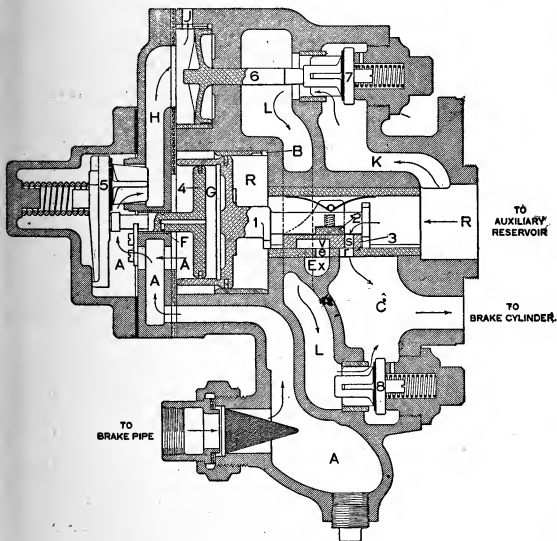

Fig. 30.—Emergency Position.
Fig. 30. When a sudden heavy reduction of the brake pipe pressure is made, piston (1) moves to the left so rapidly that the air chamber "G" can not escape through port "F" as quickly as the brake pipe pressure is reduced. It therefore cushions, momentarily, upon piston (4), moves it to the left, unseating vent valve (5), permitting brake pipe air to escape into passage "H," where it forces piston (6) to the right, and then escapes to the atmosphere through port "J," thereby producing the brake pipe reduction necessary to transmit quick action to the next brake.